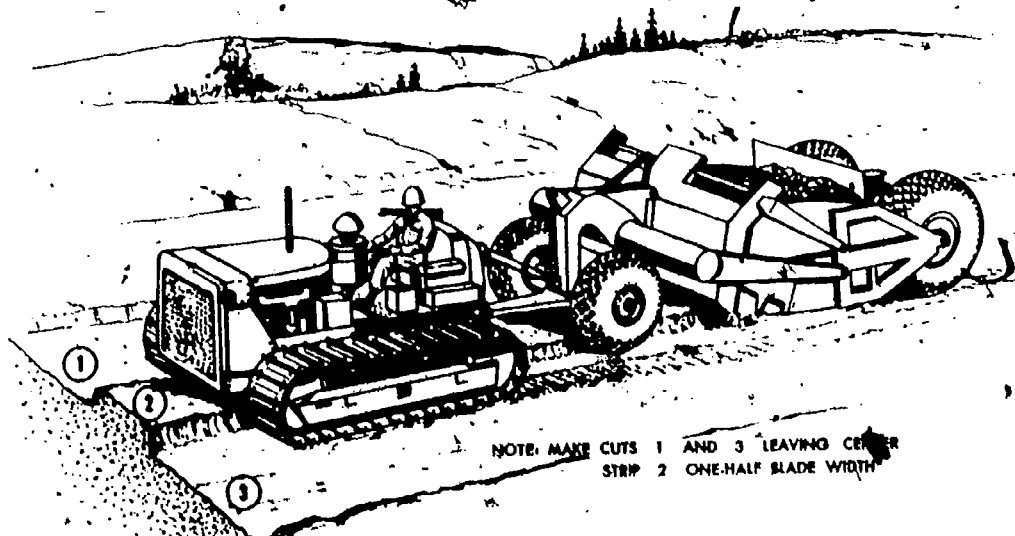

Fig 4-43. Straddle loading with scraper.
- (g) Straddle loading. When it is necessary to load on the level as in light cuts and stripping, straddle loading (fig 4-43) is used to increase yardage hauled. This method gains yardage on every third trip, because the center strip loads with less resistance to improve performance. Maximum efficiency is obtained when downhill loading and straddle loading are combined.